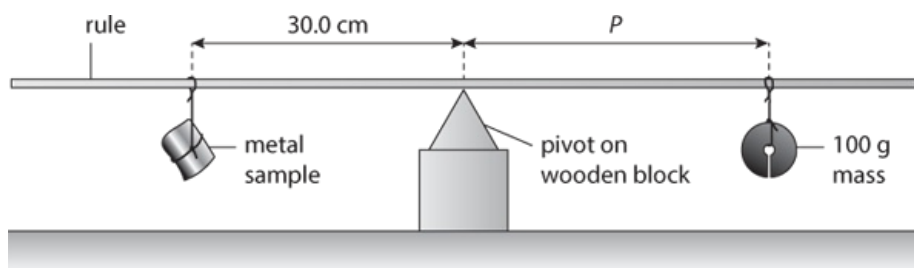

Figure 4.2: Rule balanced on a pivot with weight and metal sample.
- 1 Set up the apparatus as shown in Figure 4.2.